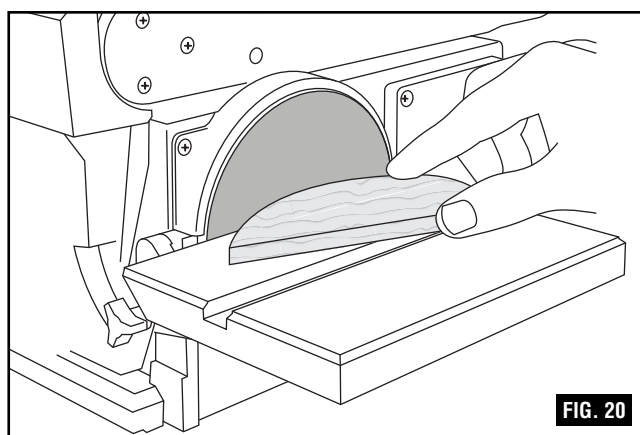

FIG. 20
2. Always sand outside curves on the left hand side of the sanding disc, as shown in figure 20.